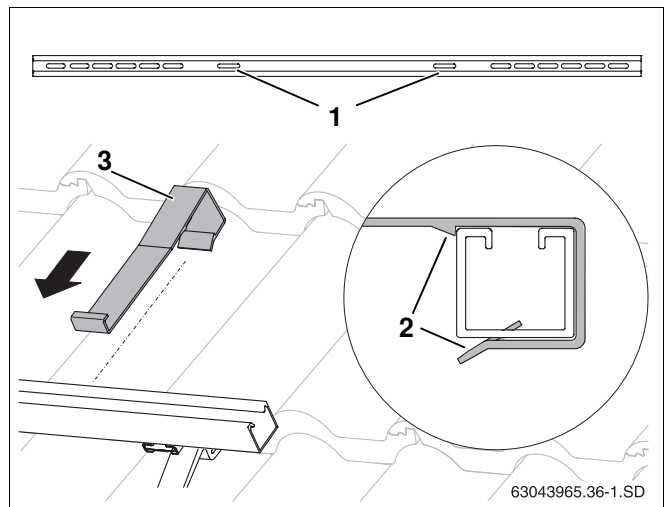

Fig. 34 Attaching anti-slip protection
- Push each anti-slip protector (Fig. 34, **Item 3**) into the innermost slotted holes (Fig. 34, **Item 1**) over the profile rails until it clicks into place (Fig. 34, **Item 2**).